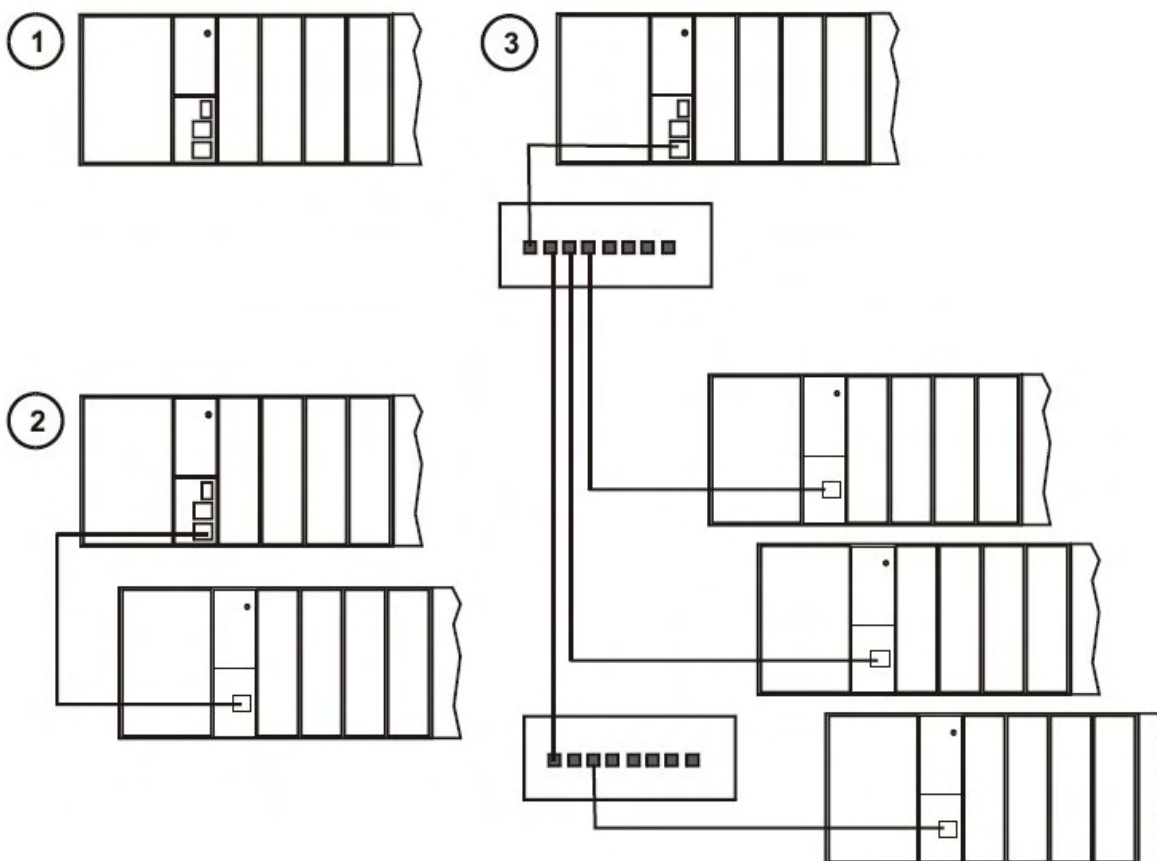

Figure 18 – HC900 Controller Configurations
Examples of HC900 Controller I/O expansion configurations are shown in Figure 18.
In Figure 18, any of the racks shown in each controller configuration can be 4-, 8-, or 12-slot versions.
- In Figure 18, any of the racks shown in each controller configuration can be 4-, 8- or 12-slot versions. Redundant I/O power not available with 4-slot.